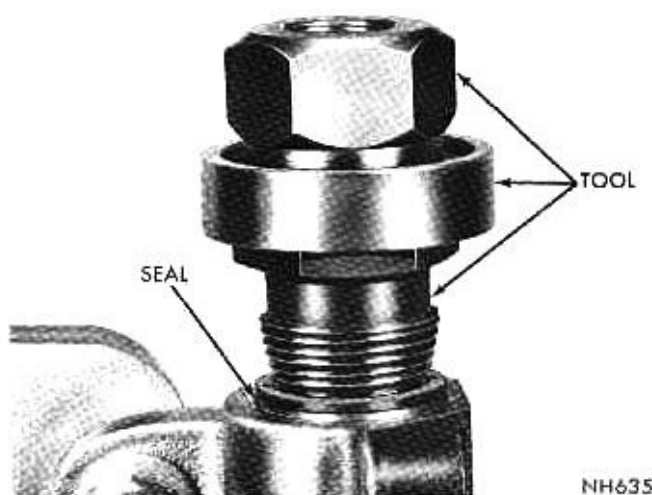

Fig. 5—Removing Gear Shaft Oil Seal
- (3) Slide threaded adapter SP-3056 of Tool C-3350-A over end of cross shaft and thread tool nut on cross shaft. Maintain pressure on threaded adapter with tool nut while screwing adapter far enough to engage metal portion of grease retainer. Place the two half rings SP-1932, and Tool retainer ring over both portions of the Tool (Fig. 5). Turn the tool nut counter-clockwise to withdraw grease retainer from housing.
- (4) Remove oil seal snap ring with snap ring pliers and remove seal back-up washer.
- (5) Use Tool C-3350-A in same manner as outlined